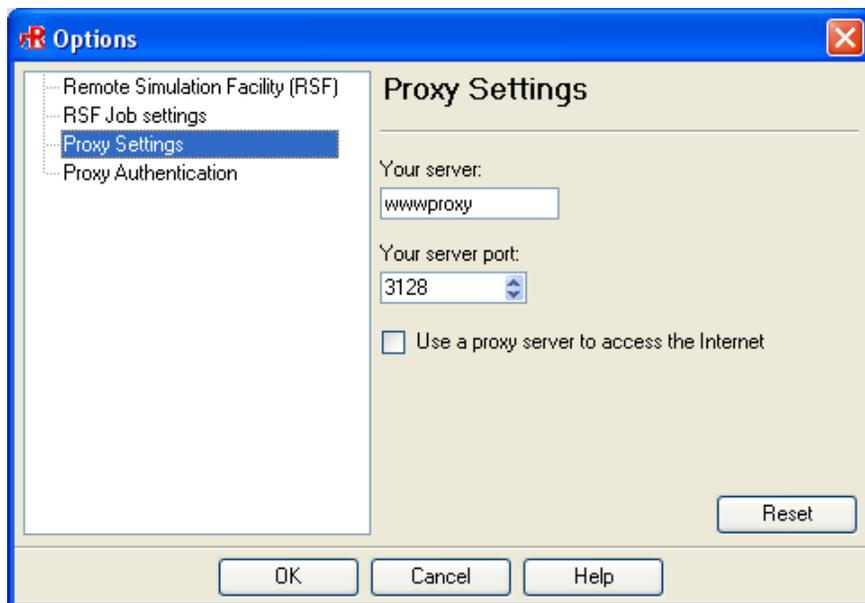

Figure 27.11.28: The Proxy Settings Panel
- iii. Select the Proxy settings node in the tree (Figure 27.11.28) to configure the proxy to access the RSF. Enter the server and server port information. Select Use a proxy server to access the Internet to access the Internet using a proxy server.